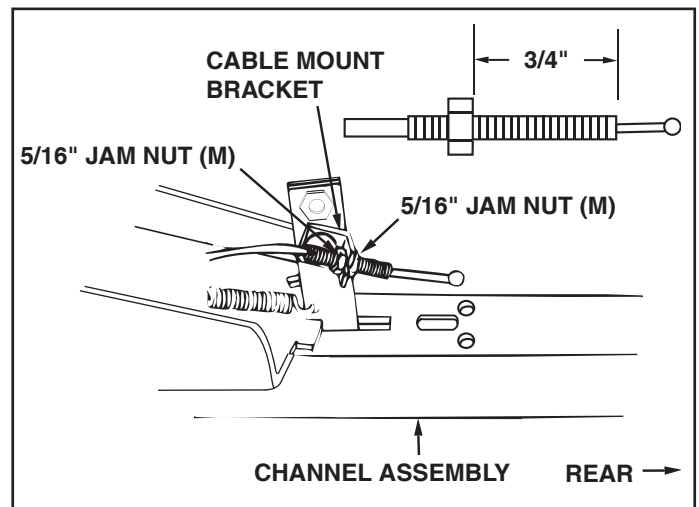

FIGURE 17 (Left Hand Side View)
- Assemble a 3/8" x 1-1/4" carriage bolt (G) through the square hole in the cable mount bracket and through the square hole in the angle lock bars as shown. (The carriage bolts should face in opposite directions.) Using pliers hold the cable mount bracket in position, angling down towards the L.H. hole in the channel as shown. Secure with a 3/8" nylock nut (K). **Tighten.** Refer also to figure 17 for the correct angle for the cable mount bracket.
STEP 17: (SEE FIGURE 17)
- Assemble one 5/16" jam nut (M) approximately 3/4" onto the threaded end of the control cable. Assemble the threaded cable end through the round hole in the cable mount bracket as shown and secure with another 5/16" jam nut (M). **Tighten.**